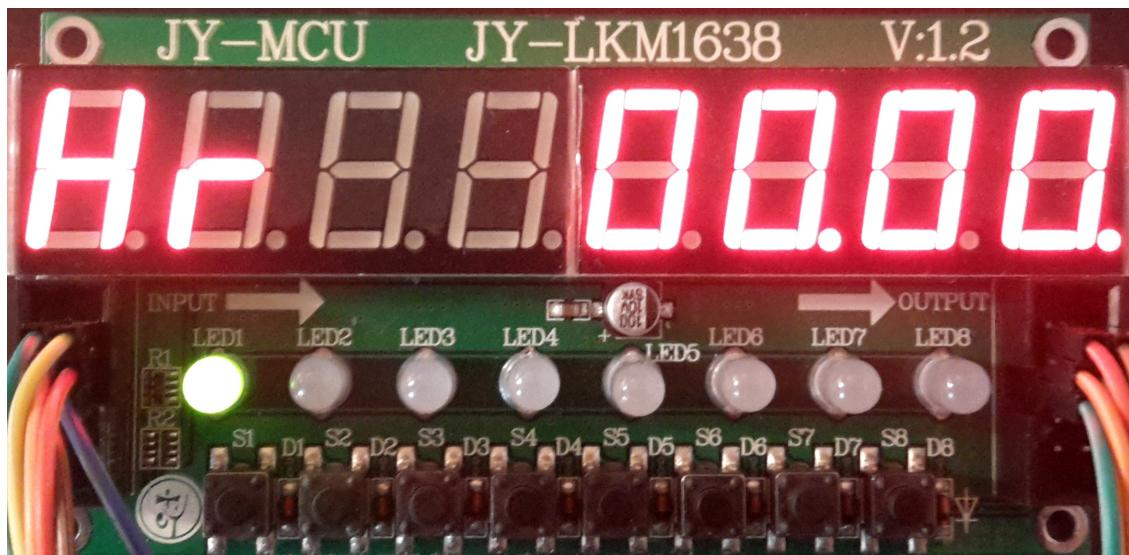

Figure 7: Timer entry showing prompt for desired number of hours.
2. The display will show “Hr” signifying that the user is now entering the number of hours required (fig. 7.)